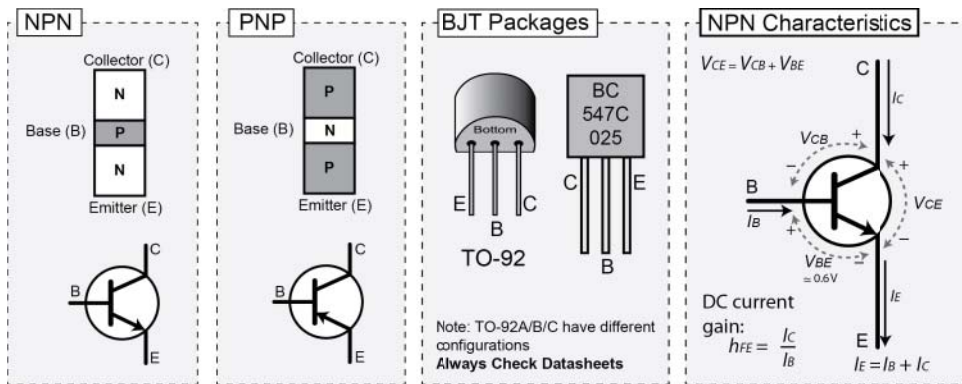

Figure 4-13: Bipolar junction transistors (BJTs)
or an n-p-n transistor. There are other types of transistors, such as field effect transistors (FETs), which are discussed shortly. The name bipolar comes from the fact that the current is carried by both electrons and holes. They have three terminals, with the third terminal connected to the middle layer in the sandwich, which is very narrow, as illustrated in Figure 4-13.
Figure 4-13 presents quite an amount of information about transistors, including the naming of the terminals as the base (B), collector (C), and emitter (E). Despite there being two main types of BJT transistor (NPN and PNP), the NPN transistor is the most commonly used. In fact, any transistor examples in this chapter use a single BC547 NPN transistor type.
The BC547 is a 45 V, 100 mA general-purpose transistor that is commonly available, is low cost, and is provided in a leaded TO-92 package. The identification of the legs in the BC547 is provided in Figure 4-13, but please be aware that this order is not consistent with all transistors—always check the datasheet! The maximum V_{CE} (a.k.a. V_{CEO}) is 45 V and the maximum collector current (I_C) is 100 mA for the BC547. It has a typical DC current gain (h_{FE}) of between 180 and 520, depending on the group used (e.g., A, B, C). Those characteristics are explained in the next sections.
Let's examine the characteristics for the NPN transistor as illustrated in Figure 4-13 (on the rightmost diagram). If the base-emitter junction is forward biased